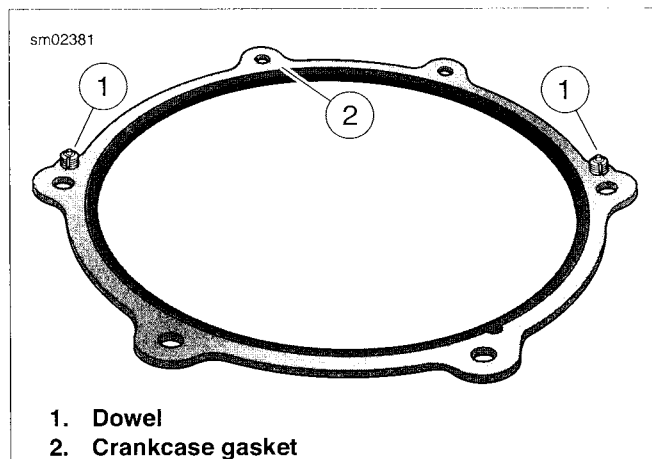

Figure 5-26. Crankcase Gasket
- See Figure 5-26. In next step, be sure dowels (1) in crankcase gasket (2) engage holes in crankcase.